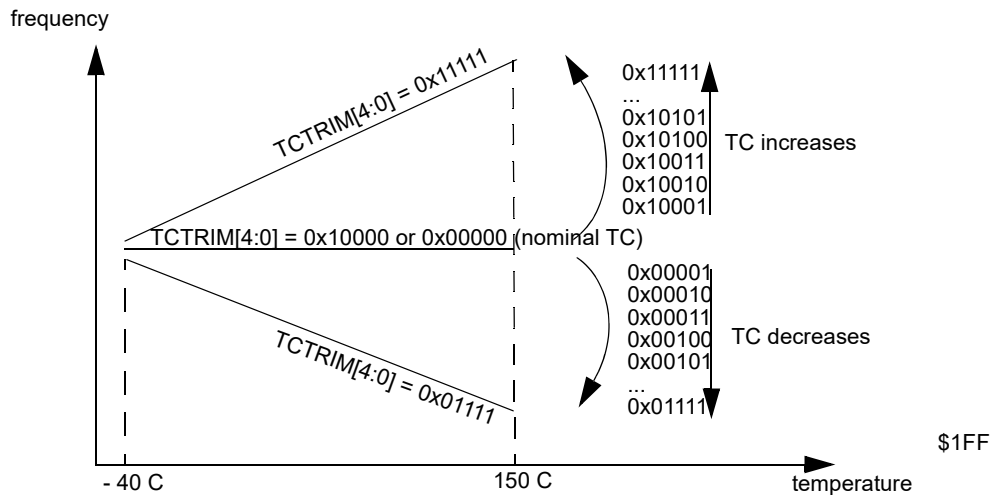

Figure 93. Influence of TCTRIM[4:0] on the temperature coefficient
| 15-11 TCTRIM | IRC1M temperature coefficient Trim Bits Trim bits for the Temperature Coefficient (TC) of the IRC1M frequency. Figure 93 shows the influence of the bits TCTRIM4:0] on the relationship between frequency and temperature. Figure 93 shows an approximate TC variation, relative to the nominal TC of the IRC1M (i.e. for TCTRIM[4:0]=0x00000 or 0x10000). |